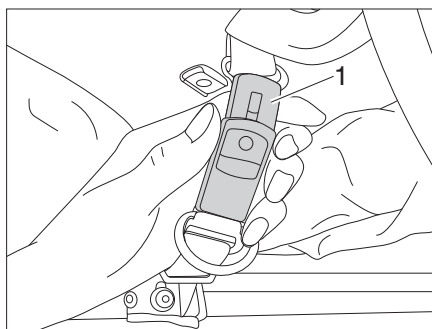

Fig. 36 Open the securing belt
- Open the securing belts (Fig. 36,1).
- Close the securing belts (Fig. 36,1).